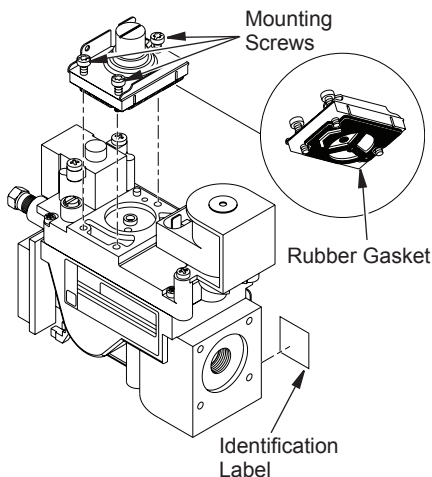

Figure 6 - Installing Pressure Regulator Assembly
2. Insure rubber gasket is properly positioned on new pressure regulator assembly. Install new pressure regulator assembly to valve using new mounting screws supplied with kit. Tighten screws securely (approximately 25 in-lbs.) See Figure 6.
3. Install the identification label enclosed with gas valve regulator to valve body where it can easily be seen (see Figure 6).